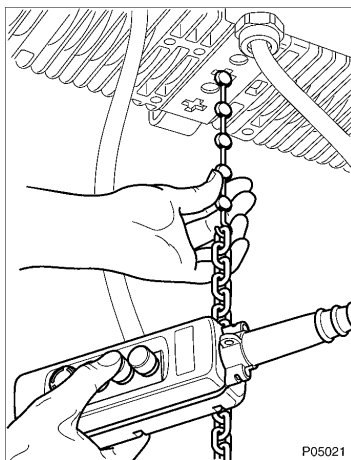

FIGURE 5.5
1. Attach last link of chain onto hook of CHAIN INSERTION TOOL (item 1, Figure 5.5).
1. If the chain insertion tool is not in the hoist (removal procedure), attach last link of chain onto hook of CHAIN INSERTION TOOL (item 1, Figure 5.5).